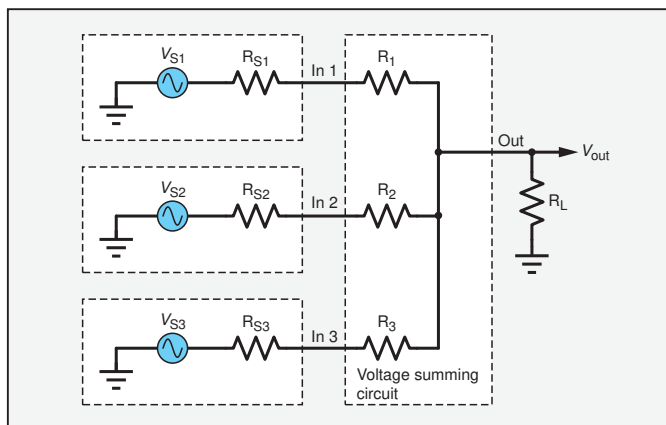

Fig.6. Three-input passive mixer with sources and load.
Fig.6 shows an example of a passive mixer with three inputs, all connected to signal sources, V_{S1} to V_{S3} , each of which has a corresponding source resistance. The mixer's output is connected to a load resistor R_L . From this schematic we can see that the source and mixer resistances are in series and add together to make the effective mix resistance for each channel. It follows that the mixer resistors should be much larger than the source resistances to prevent the source resistance from having a significant effect on the circuit. Alternatively, you could argue that if you just connected the sources together their source resistances would provide the mixing. Although this is true on one level, it is unlikely to be a workable approach in many situations. Sources such as op amp outputs have low impedances and would drive high currents if their outputs were shorted together. Even if no damage was done it is likely that significant signal distortion would occur.
To determine the output voltage from the circuit in Fig.6 we can use some circuit theory that uses the superposition theorem. For a linear circuit we can find a voltage or current of interest by taking all the sources in turn, setting all the other sources to zero, working out the relevant circuit values with just that one source active, repeating this for all
As an example, consider this approach applied to the circuit in Fig.6. To keep things simple we will assume that all of the source resistances are zero and that the load resistance is infinite, so we just have the three mix resistors. To work out the contribution from V_{S1} , we set $V_{S2} = V_{S3} = 0$, which results in the circuit in Fig.7. We have a potential divider with R_1 as the upper resistor and the parallel combination of R_2 and R_3 as the lower resistor. If all the resistors have the same value (R), then the parallel combination of R_2 and R_3 will be $R/2$. Using the potential divider formal we find the contribution of V_{S1} to V_{out} as:
Fig.7. Part of using the superposition theorem on the circuit in Fig.6. Sources V_{S2} and V_{S3} are set to zero to calculate the contribution of V_{S1} . This example also ignores source and load resistances.